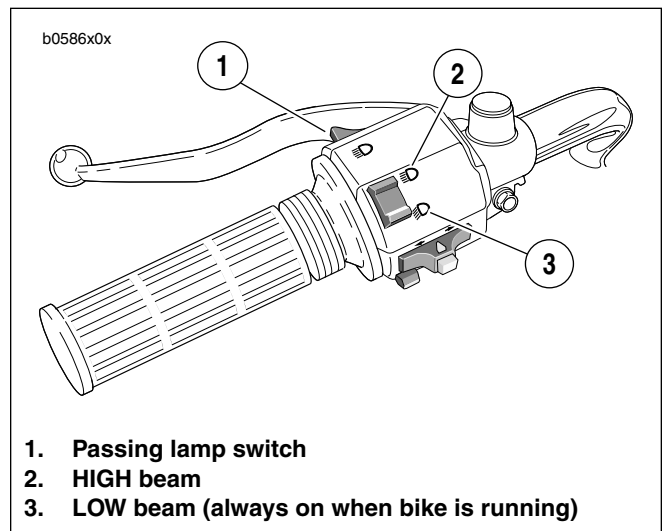

Figure 7-48. Headlight Controls
- b. See Figure 7-48. Check headlight LOW (3) and HIGH beam (2) settings.
- c. Set headlight to LOW beam. Press passing lamp switch (1). Headlight should flash HIGH beam for as long as the switch is pressed.